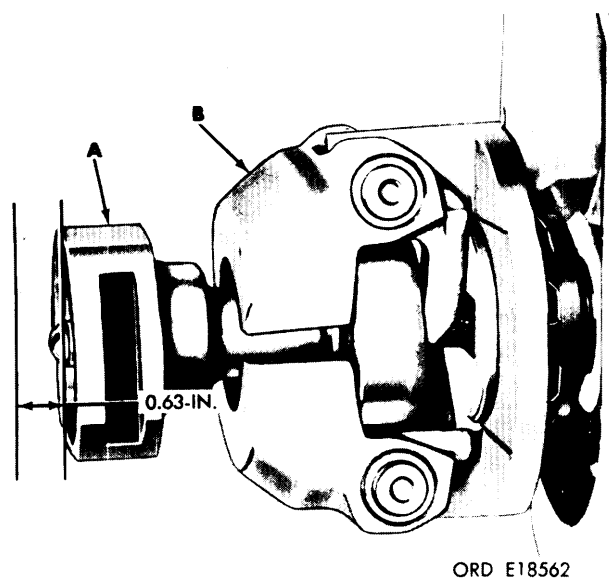

Figure 3-139. Checking sliding sleeve travel.
c. Refer to figure 3-139. Check sliding sleeve travel. Remove sliding sleeve from governor housing, figure 3-89. Position sliding sleeve (A) in governor weight and spider assembly and rotate weights (B) completely outward (a above) 3.380-inch (maximum). Sliding sleeve travel must be a minimum of 0.630-inch. If travel is less than 0.630-inch, replace governor weight and spider assembly. Install sliding sleeve in governor housing, figure 3-89.